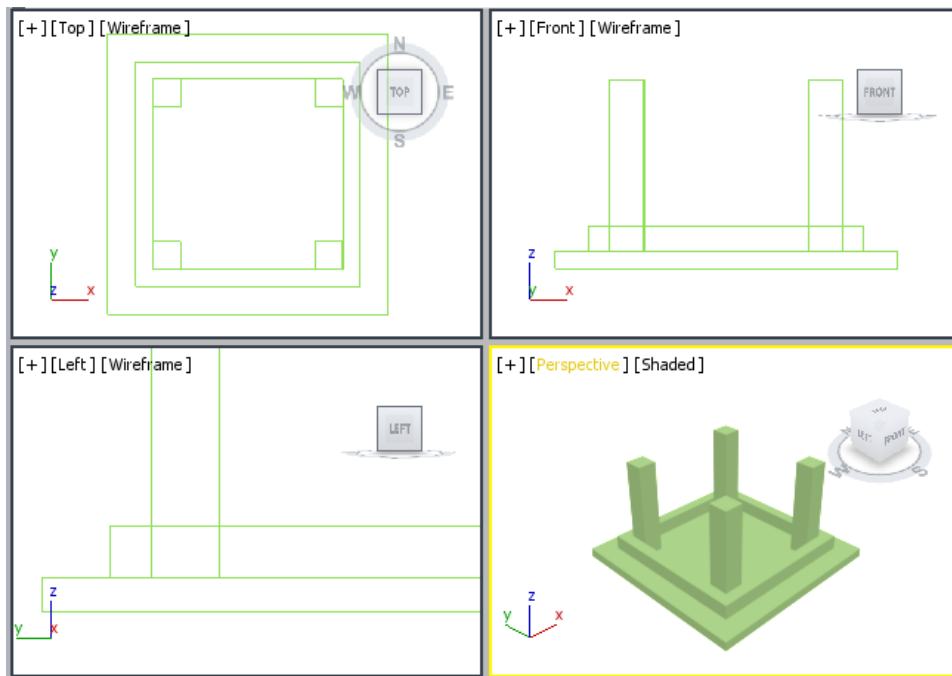

Figure 5-7 The four legs of the table created and aligned to their correct positions
6. Similarly, create a copy of *Leg03*. Next, name it as **Leg04** and place it at the lower-right corner of *Frame*; the four legs of table are created and aligned, as shown in Figure 5-7.